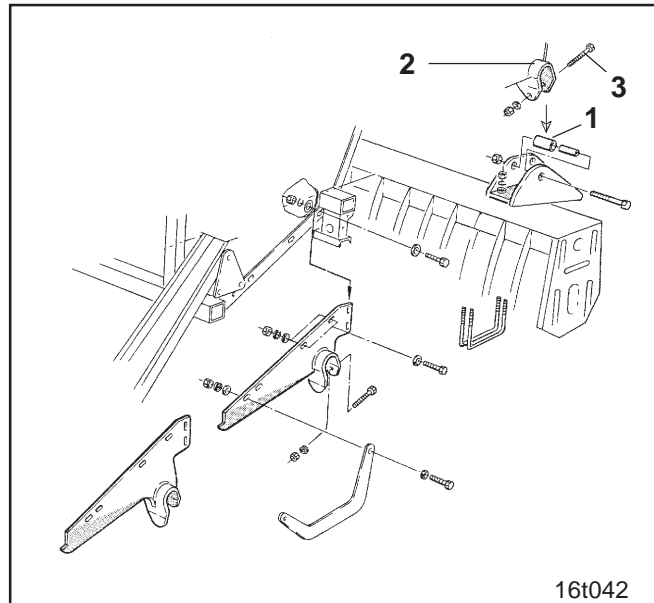

Fig. 22.4
- Connect bearing shafts (Fig. 22.4/1) and catching arm (Fig. 22.4/2), lock with pins (Fig. 22.4/3) and secure with clip pins.